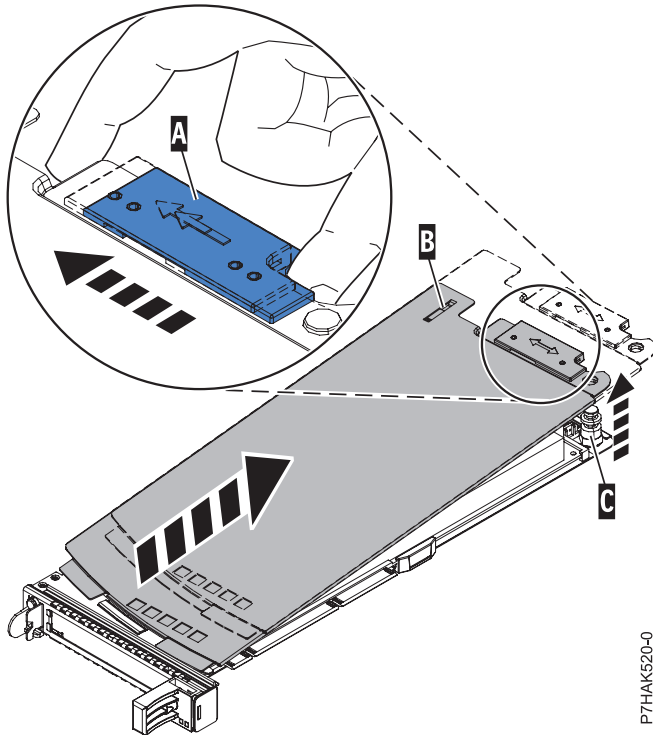

Figure 51. Removing the PCIe adapter cassette cover
- a. Slide the cover latch (A) to disengage it from the pivot pin (C) as shown in Figure 51 on page 47.
- b. Lift the cover (B) off of the pivot pin (C).